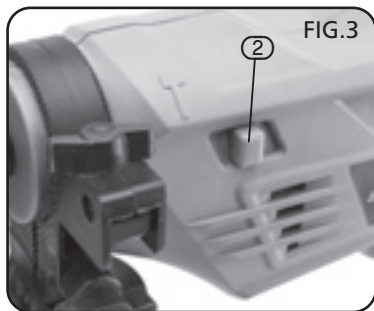

FIG.3
9.2 ROTARY/HAMMER SELECTOR - FIG. 3